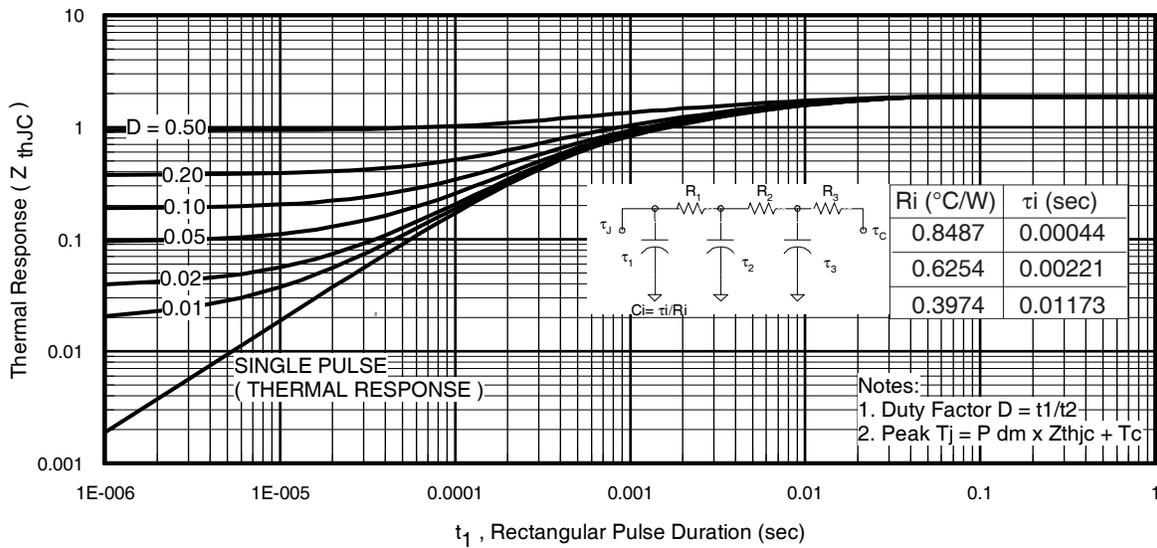
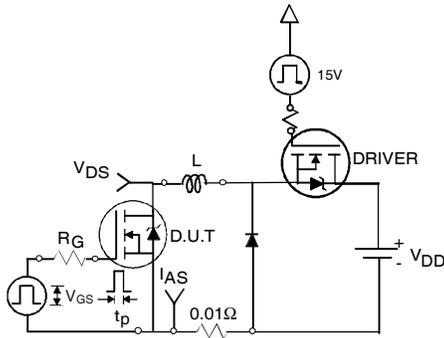

Fig 11. Maximum Effective Transient Thermal Impedance, Junction-to-Case
Fig 12a. Unclamped Inductive Test Circuit
- ① Repetitive rating; pulse width limited by max. junction temperature. (See fig. 11).
- ② Limited by T_{Jmax} , starting $T_J = 25^\circ\text{C}$, $L = 0.18\text{mH}$, $R_G = 25\Omega$, $I_{AS} = 31A$, $V_{GS} = 10V$. Part not recommended for use above this value.
- ③ $I_{SD} \leq 31A$, $di/dt \leq 840A/\mu s$, $V_{DD} \leq V_{(BR)DSS}$, $T_J \leq 175^\circ\text{C}$.
- ④ Pulse width $\leq 1.0\text{ms}$; duty cycle $\leq 2\%$.
- ⑤ $C_{oss\ eff.}$ is a fixed capacitance that gives the same charging time as C_{oss} while V_{DS} is rising from 0 to 80% V_{DSS} .
- ⑥ Limited by T_{Jmax} , see Fig.12a, 12b, 15, 16 for typical repetitive avalanche performance.
- ⑦ This value determined from sample failure population. 100% tested to this value in production.
- ⑧ This is applied to D²Pak, when mounted on 1" square PCB (FR-4 or G-10 Material). For recommended footprint and soldering techniques refer to application note #AN-994.
- ⑨ R_θ is rated at T_J of approximately 90°C .
3. Equation below based on circuit and waveforms shown in Figures 12a, 12b.
$Z_{thJC}(D, t_{av})$ = Transient thermal resistance, see figure 11)